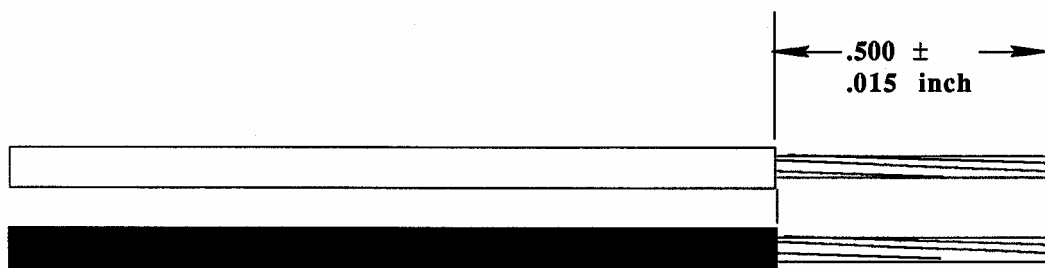

Figure 5-11. Cable Conductor Stripping Dimensions
10. Strip the cable conductors to the dimensions shown in Figure 5-11.
- If the strip length is incorrect, restrip to the required dimensions (Figure 5-11).